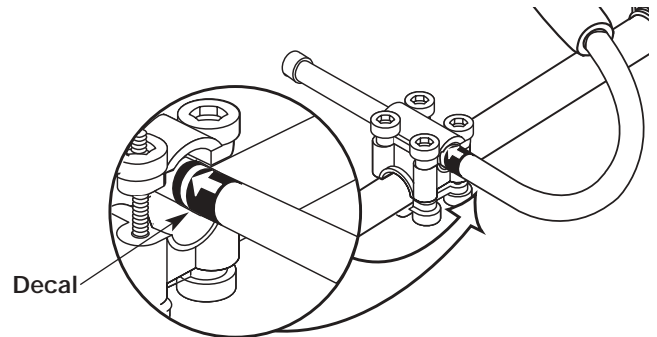

FIGURE 2
7. Slide the J-handle in or out until the arrow/white line on the decal touches the clamp assembly, Figure 2.